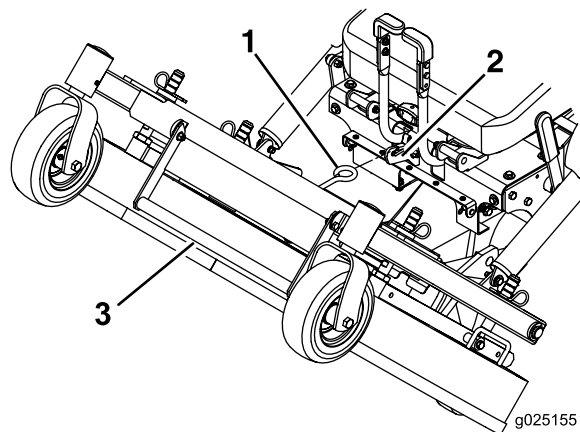

Figure 10
3. Using the deck-lift handle, lift the deck up and latch it in the Up position (Figure 10).
1. While firmly holding onto the deck-lift handle, unhook the mower-deck latch from the machine and slowly lower the mower deck to the ground (Figure 10).